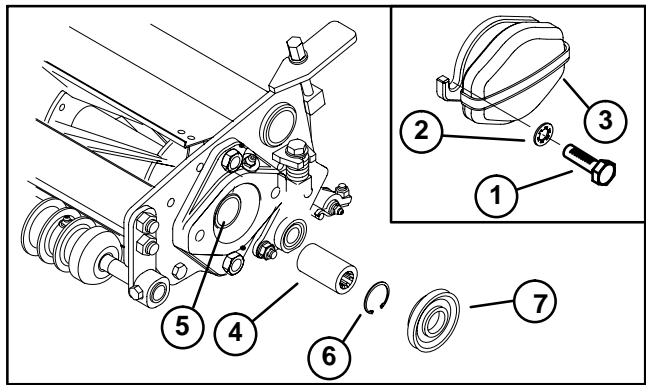

Figure 39
1. If a cutting unit is to be mounted in the right front position, proceed as follows (Fig. 39):